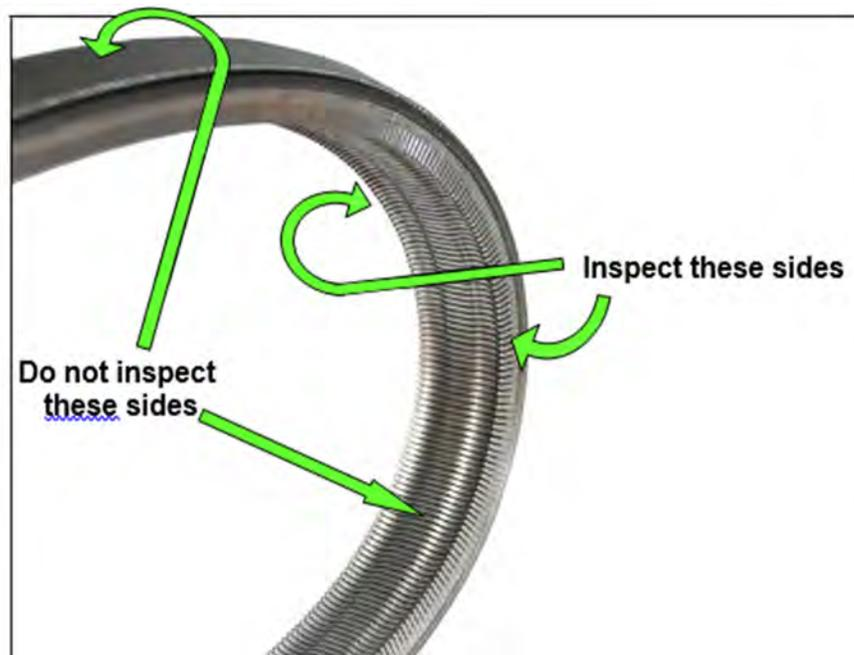

Figure 11
16. Inspect the entirety of the two sides of the belt that come in contact with the pulleys (Figure 11).